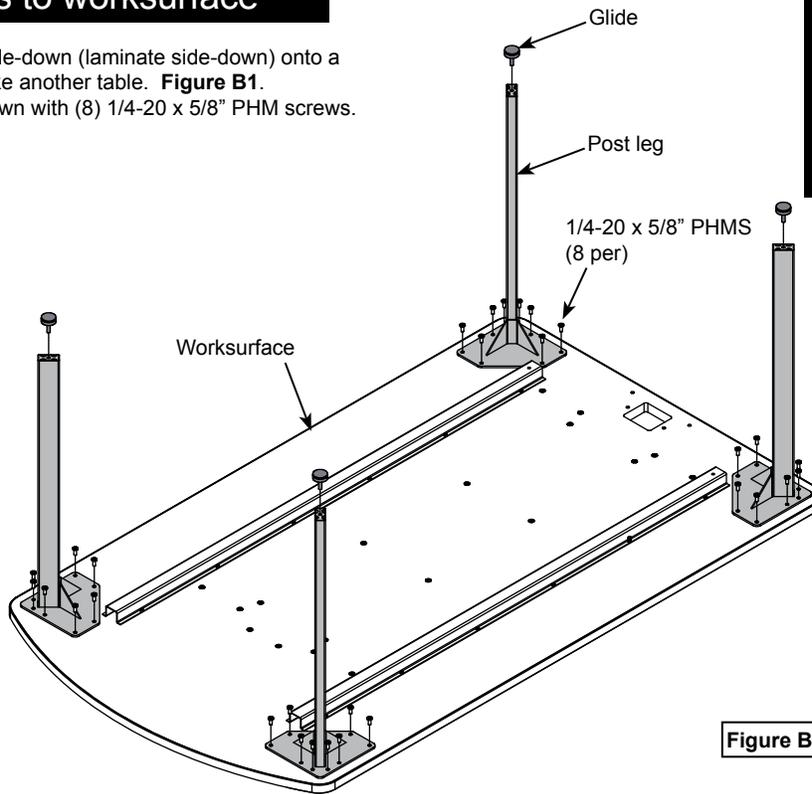

Figure B1
1. Place the worksurface upside-down (laminated side-down) onto a flat, non-abrasive surface like another table. **Figure B1.**
2. Attach each post leg as shown with (8) 1/4-20 x 5/8" PHM screws.